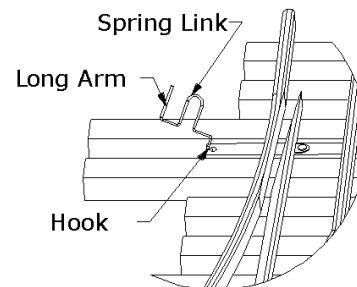

Figure 2
2. Spring Link – Insert the hook shaped end of the spring link into the hole in the throw bar. Hold the long arm of the spring vertical while placing the DZ-1000. Insert the long arm of the spring into the hole at the end of the control arm. (Figure 2) For **Curtis or Ross** switches use the Spring Link with the flat sided u-shaped bend and for **GarGraves** switches use the Spring Link with the peak in the u-shaped bend.